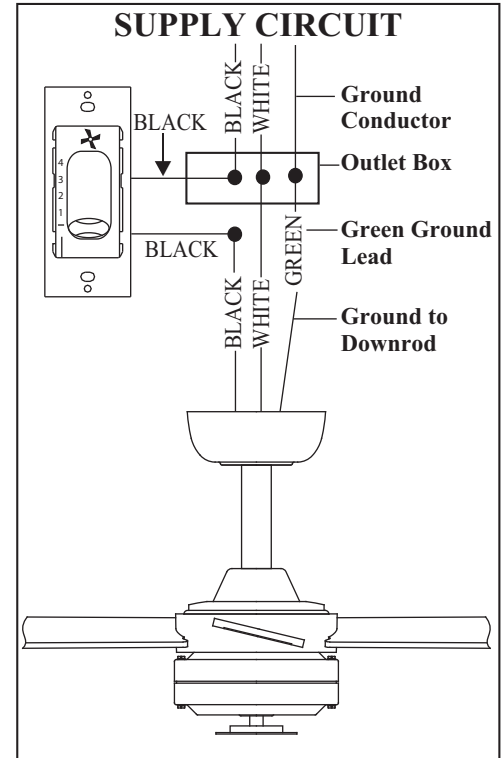

Figure 12
3. Make wire connections (Figure 12) and secure with wire nuts supplied.